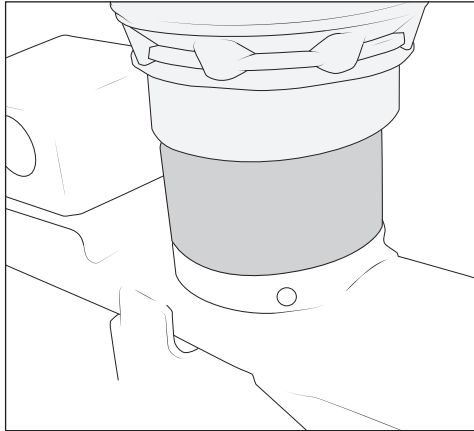

Figure 28
3. Lower the axle until the spring spacer will fit between the axle pad and the bottom seat of the air spring. Be careful not to stress brake lines. Make sure spring pads are clean of debris so spacers sit level, then install spacers (fig. 28).